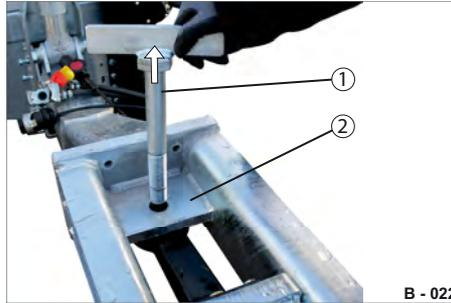

Fig. 19 Removing fastening bolt
- ▶ Pull out the fastening bolt (Fig. 19/1).